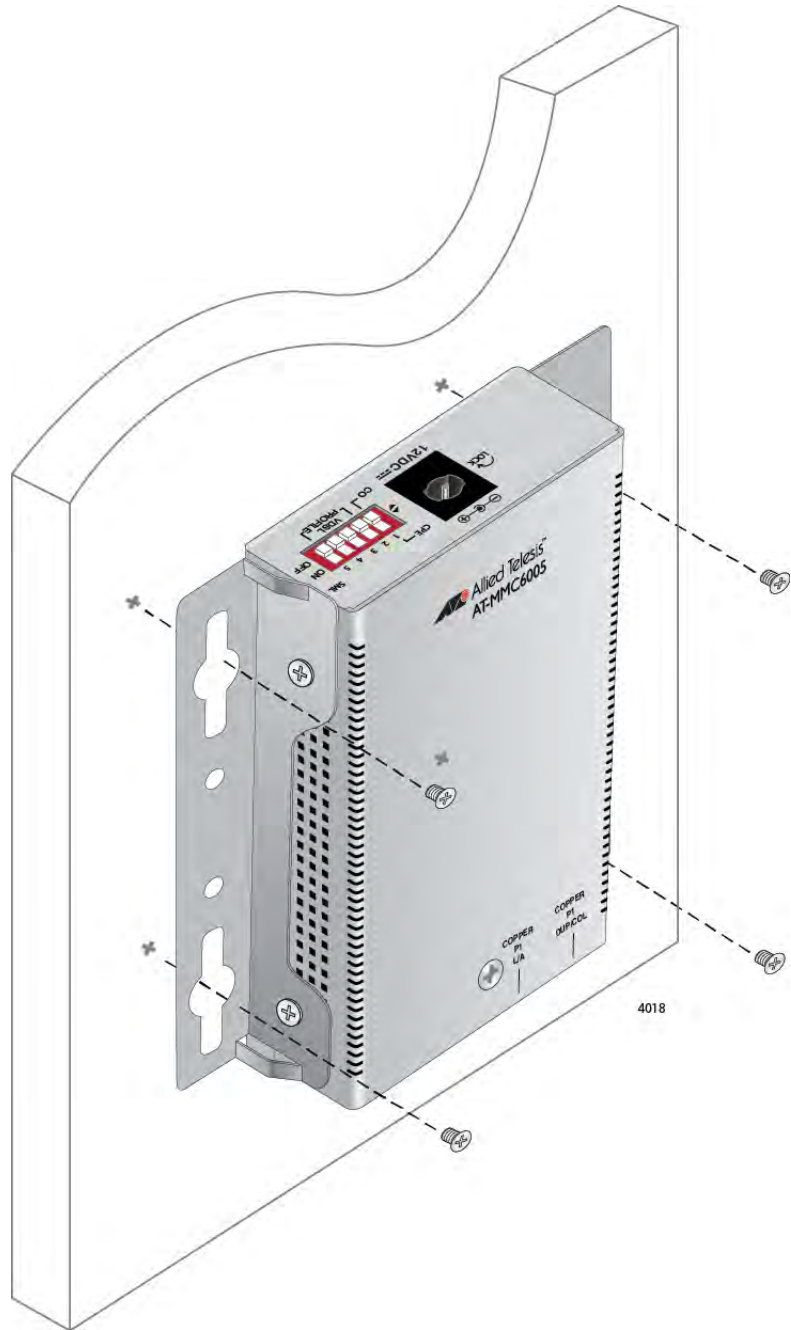

Figure 23. Securing the Media Converter to the Wall
7. Secure the Subscriber unit to the wall using four wall-mounting screws. See Figure 23.